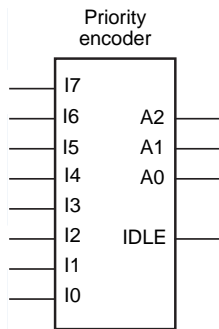

Figure 12: Logic symbol for a generic 8-input priority encoder.
- Logic equations for priority encoder's outputs (Fig. 12)